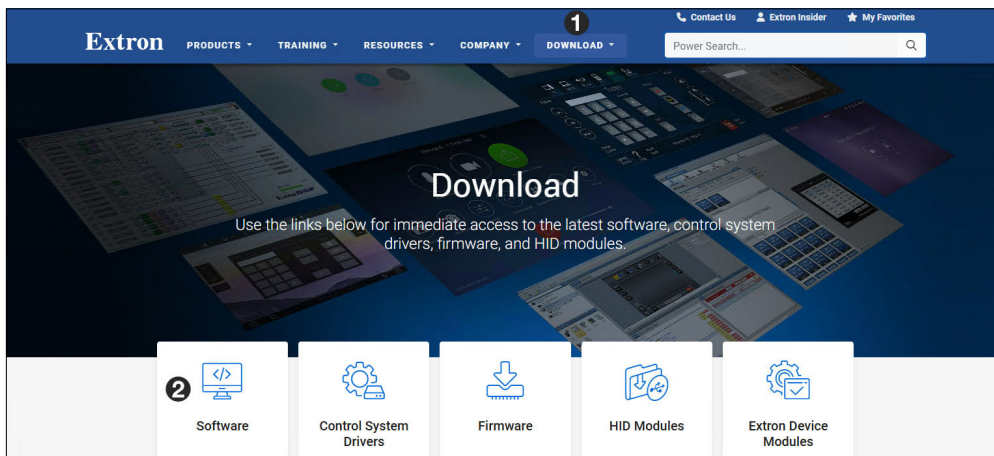

Figure 34. Software Downloads from the Extron Website
1. Select the **DOWNLOAD** tab (see figure 34, **1**).